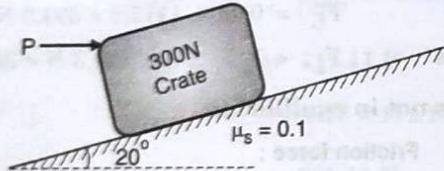

Fig. Q. 1
- Q.1 Determine the horizontal force P needed to just start moving the 300 N crate up the plane as shown in Fig. Q. 1. Take $\mu_s = 0.1$.